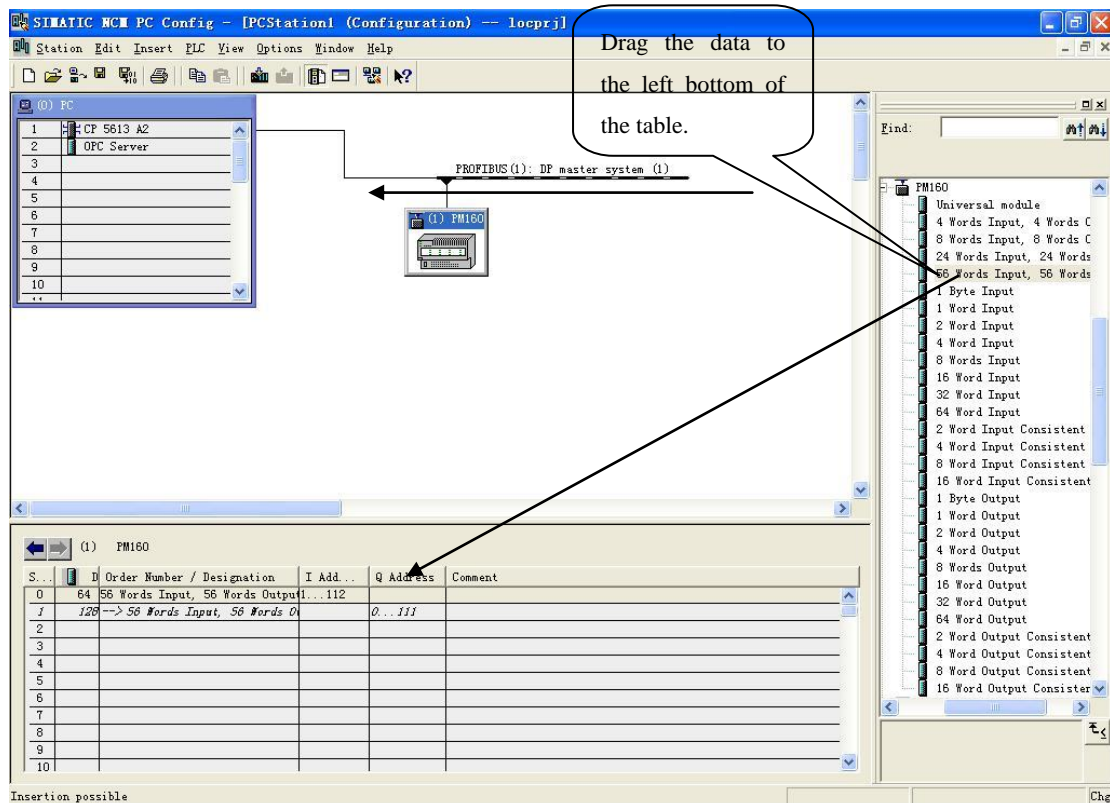

Figure 10
11. Put configuration into PROFIBUS DP network, and map the input and output data block into other controller's memory; Figure 10: